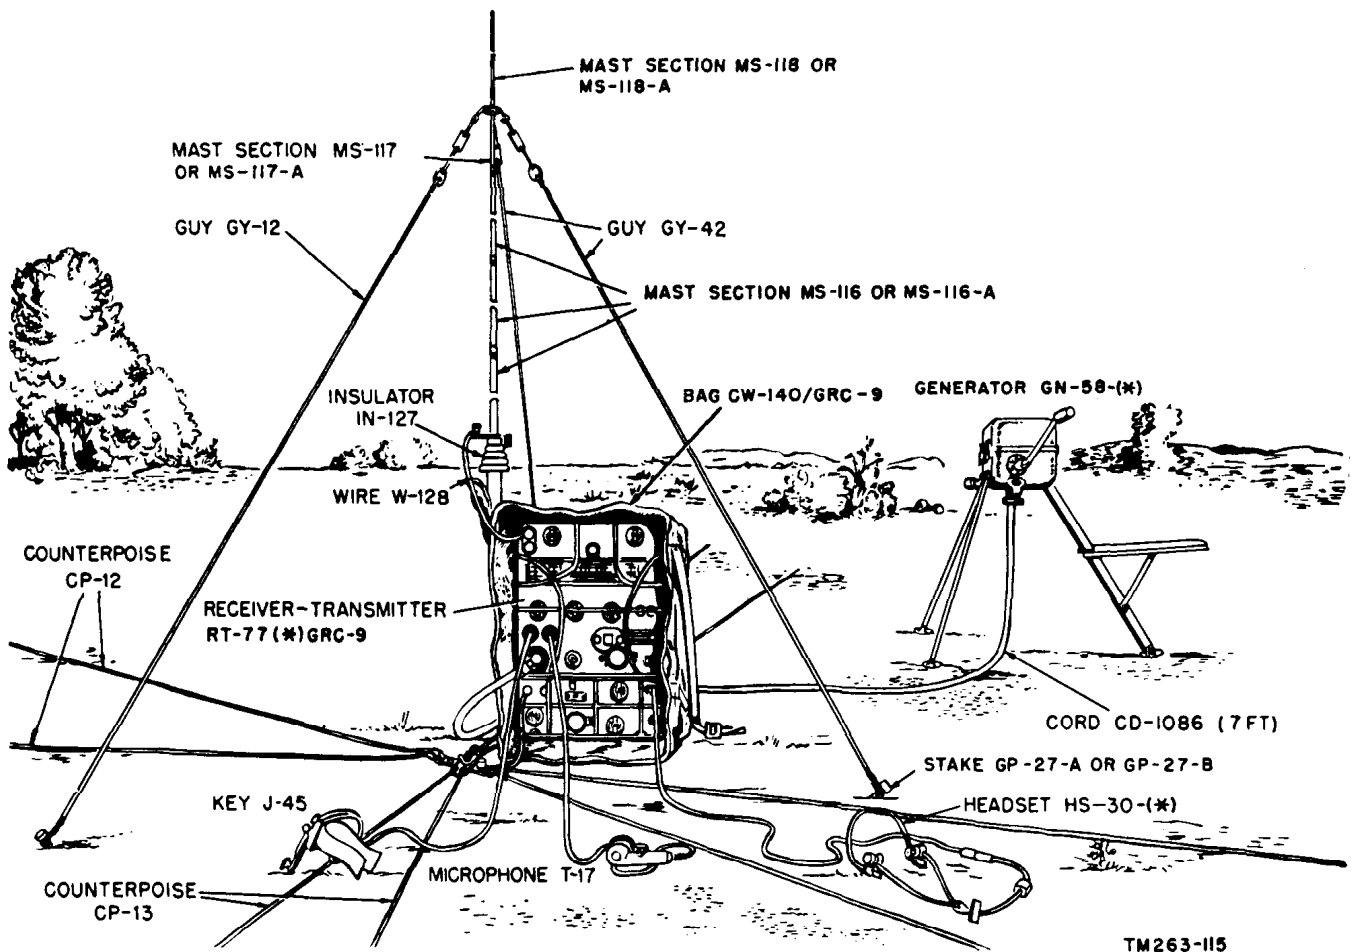

Figure 23. Typical ground installation, whip antenna.
### 30. Whip Antenna (fig. 23)
f. Close the clamp ring of Guy GY-42 (fig. 25) and hook the end of Guy GY-12 (fig. 23) through the holes in the collar clamps to keep the clamps closed. Insert Mast Section MS-116-A into Insulator IN-127.